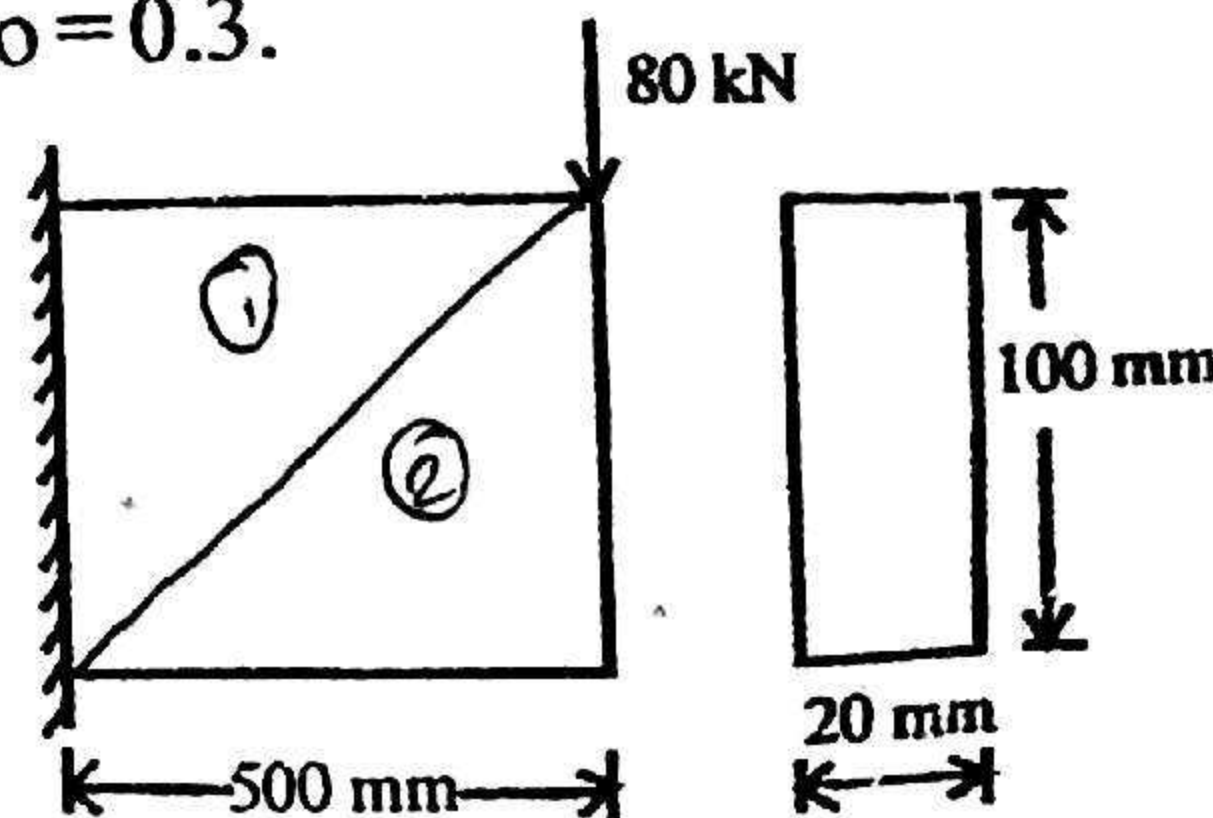

Fig. 9
- (b) Develop element matrix in 1-dimensional element due to rise in temperature. (8)
9. A flat plate is fixed to the rigid free end. Model the plate with two-dimensional plane stresses elements and develop Global stiffness matrix. (Ref. Fig. 9)